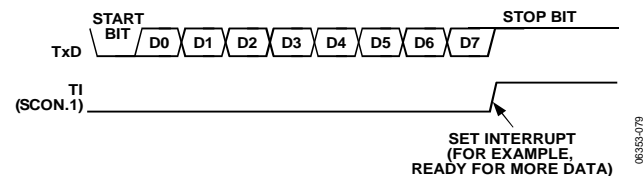

Figure 105. 8-Bit Variable Baud Rate
Transmission is initiated by a write to the serial port buffer SFR (SBUF, Address 0x99). Next, a stop bit (1) is loaded into the ninth bit position of the interval serial port shift register. The data is output bit by bit until the stop bit appears on TxD and the transmit interrupt flag (TI) is automatically set as shown in Figure 105.